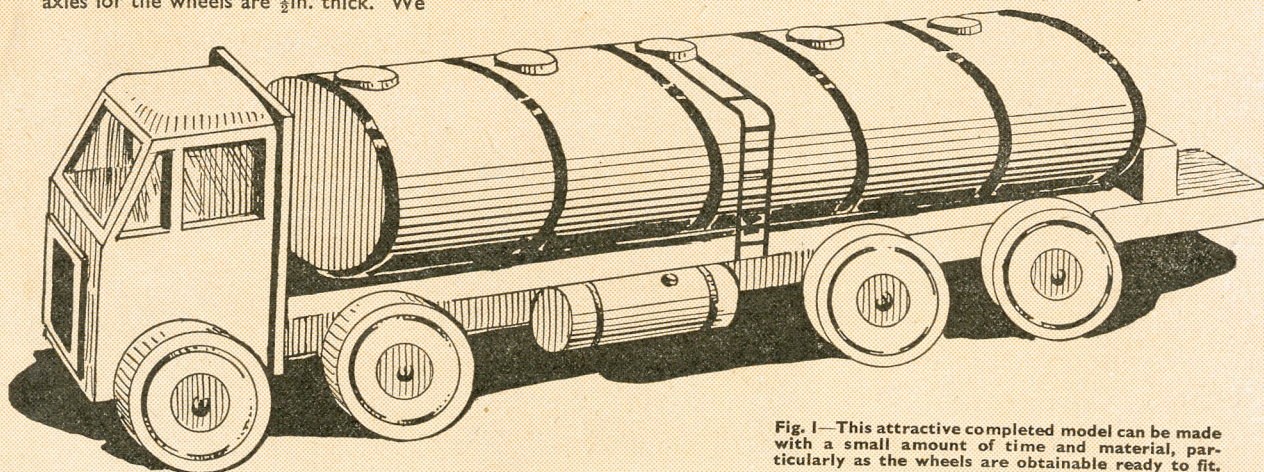

Fig. 1—This attractive completed model can be made with a small amount of time and material, particularly as the wheels are obtainable ready to fit.
The roof of the cabin is next made, and a piece of ¾ in. wood measuring 3 in. by 1½ in. is wanted for this. The squared up piece, just as it leaves the saw may be glued in place on the cabin sides and to the back (C). The shaping is afterwards done on three edges as seen in Figs 1 and 2. If preferred, however, the shaping could be done before the roof is glued on. Add one or two small gluing blocks where possible to add to the strength of the joints; they should be put along inside where not particularly seen.